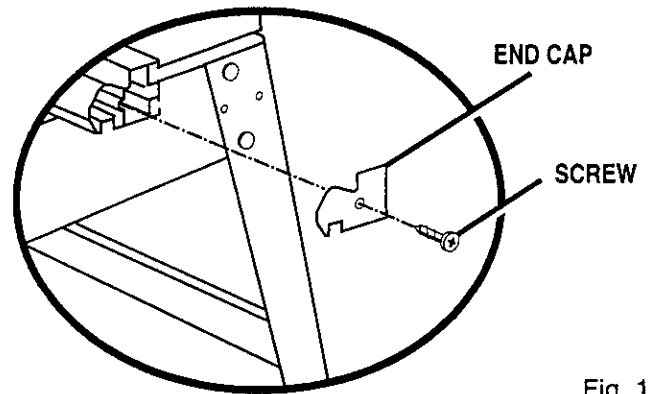

Fig. 11
- Attach the front rail end caps and screws with a phillips screw driver. *See Figure 11.*